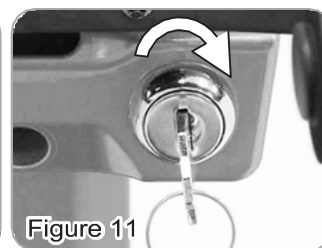

Figure 11
- Turn the key clockwise to turn on, counterclockwise to turn off (Figure 11).